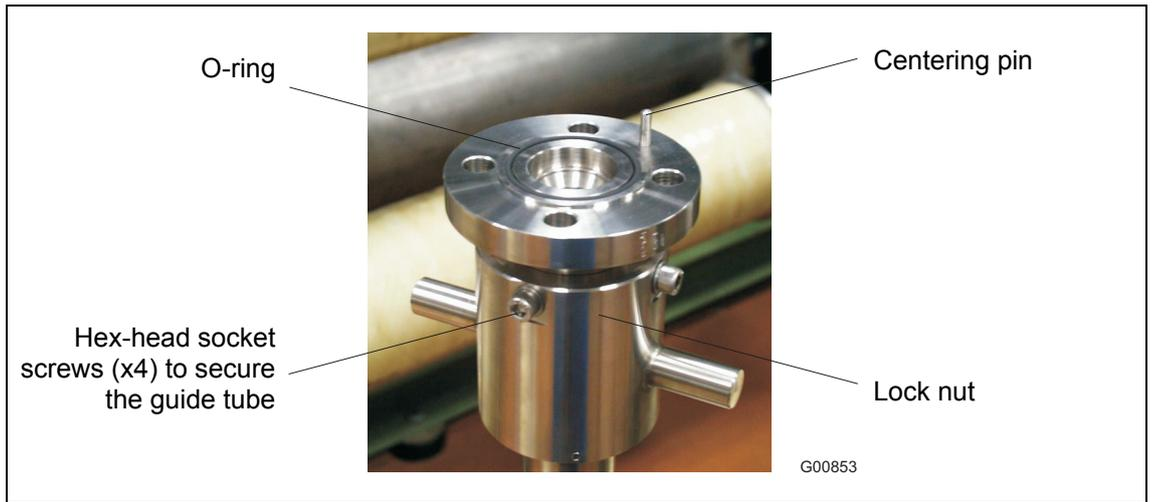

Fig. 13
- Insert the O-ring (55 x 3 mm [2.16 x 0.12 inches]) into the groove provided for this purpose (Fig. 13). The O-ring gasket and screws are included in the scope of delivery.
- To disassemble the guide tube, release the 4 hex-head screws on the lock nut (Fig. 13) and remove the guide tube. Clean parts, if necessary.